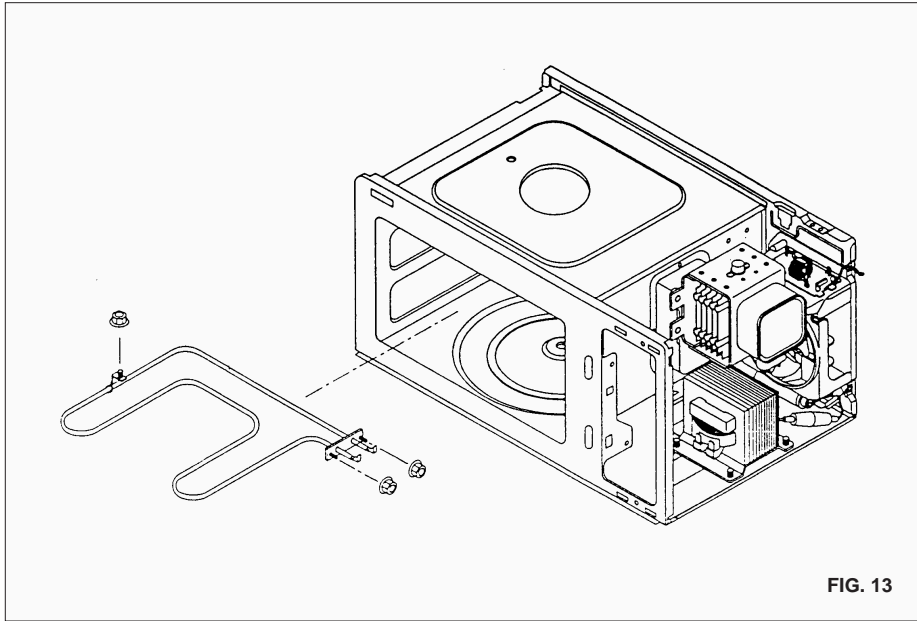

FIG. 13
11. To remove grill heater assembly (Refer to Fig. 13)